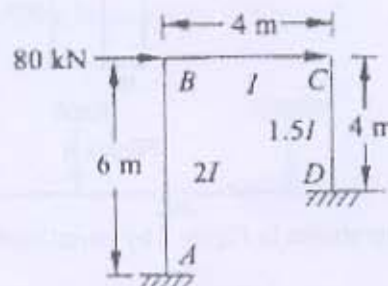

Figure 2
- (b) Analyse the frame shown in Figure 2 by Moment Distribution Method. Draw Bending moment diagram. [10]